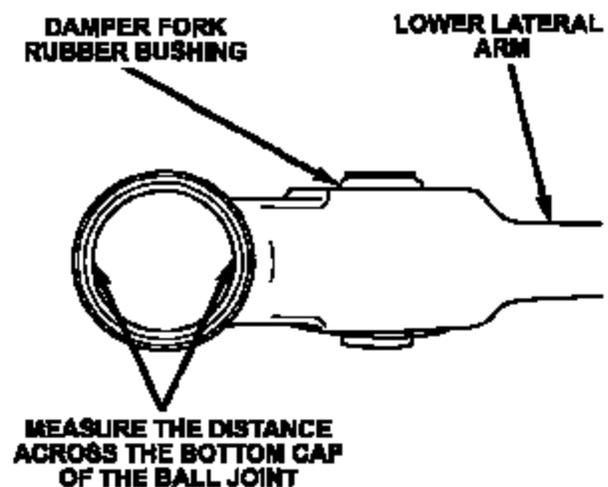

Figure 2 – Bottom View Shown
6. Measure the bottom of the lower lateral arm ball joint as shown in Figure 2. If the ball joint measurement is 1-1/8” to 1-5/32” (28mm to 30mm), the ball joint is considered a 1-1/8” (28mm) ball joint. If the ball joint measurement is 1-1/4” to 1-3/8” (32mm to 35mm), the ball joint is considered a 1-1/4” (32mm) ball joint.